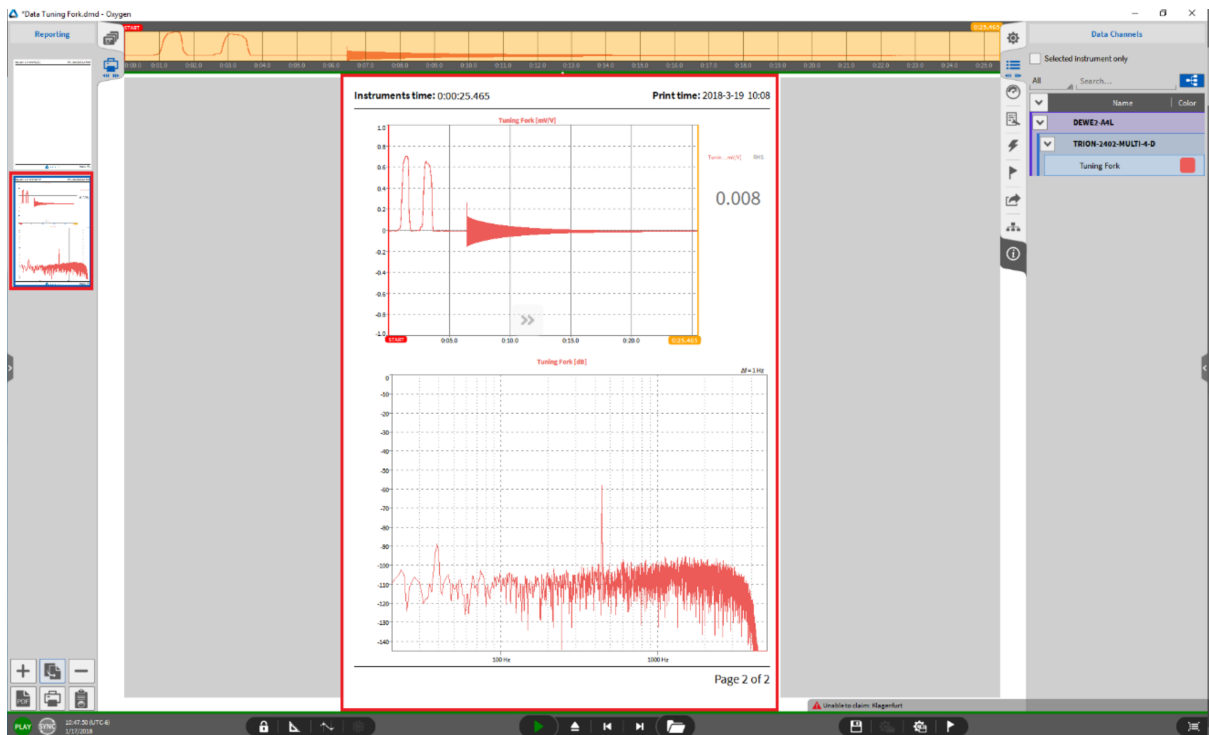

Fig. 14.5: Measurement screen added to the report
- The entire measurement screen is now copied to the report as a new report page (see Fig. 14.5):